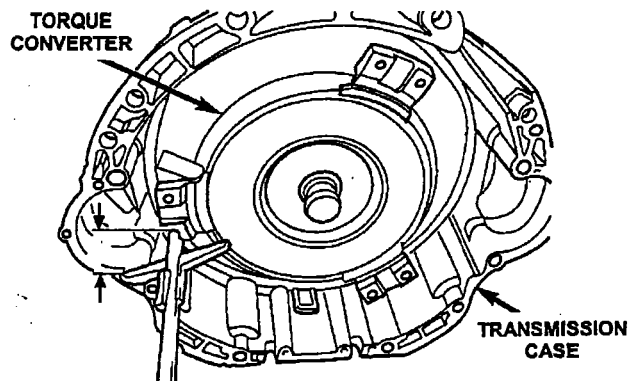

Figure 9
31. Check the converter for proper seating with a straightedge. The surface of the converter lugs should be at least $\frac{3}{4}$ inch (19mm) to the rear of the straight edge when the converter is fully seated (Figure 9).